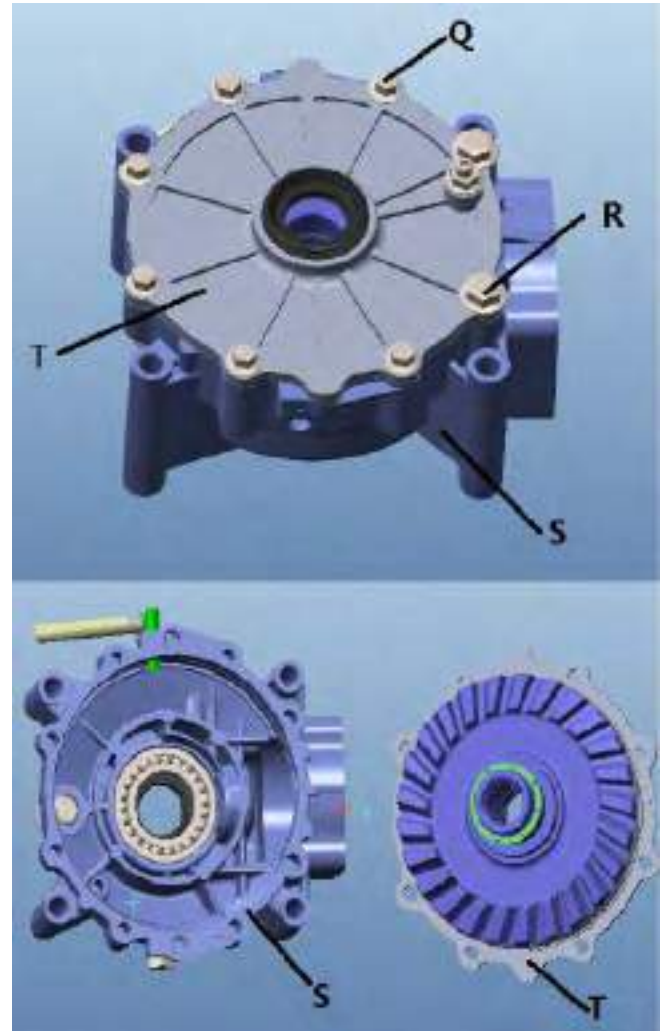

Fig 5
2. Remove the six bolts **M8×25 Q** and the two bolts **M10×1.25×25 R**. Remove the ring gear bearing housing **T** from the rear gear case **S**. →Fig 5